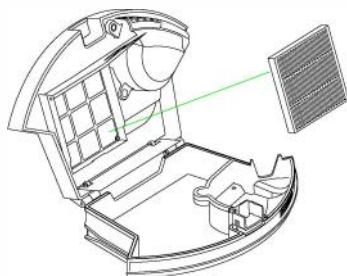

Figure 3
2. In the wall follow mode, press the left/right button of the robot to enter the standby mode; press the other cleaning mode button on the APP interface to enter other cleaning states. (Figure 3)